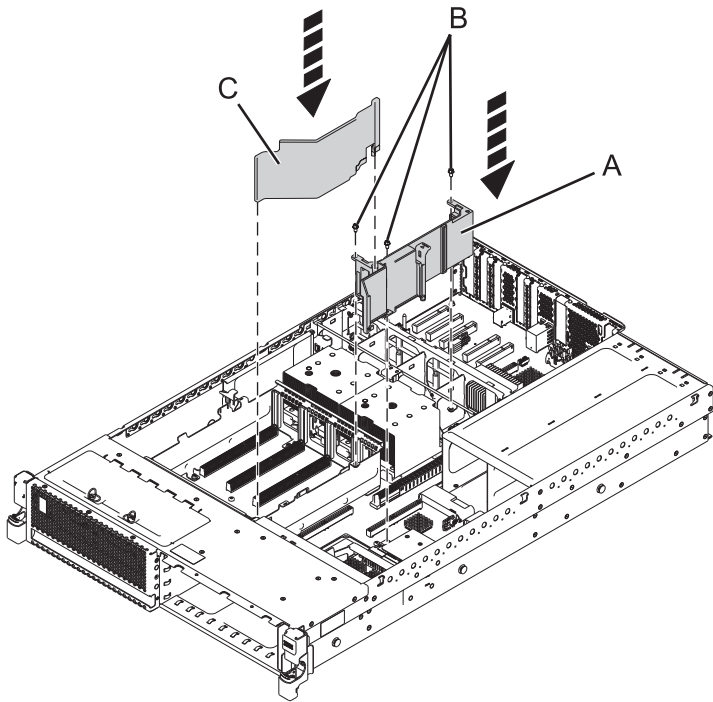
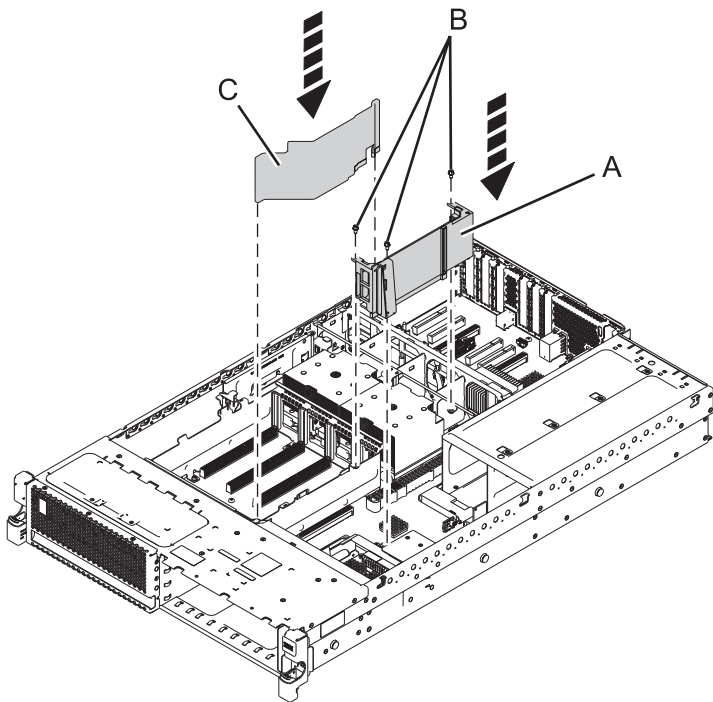

Figure 19. Replacing the voltage regulator guide air divider in the 8231-E2B
Figure 20. Replacing the voltage regulator guide air divider in the 8231-E1C, 8231-E1D, 8231-E2C, 8231-E2D, or 8268-E1D
- a. Lower the voltage regulator guide (A) into place and tighten the three screws (B) that secure it in place. See Figure 19 on page 21 or Figure 20 on page 21.
- b. Lower the air divider (C) into place.